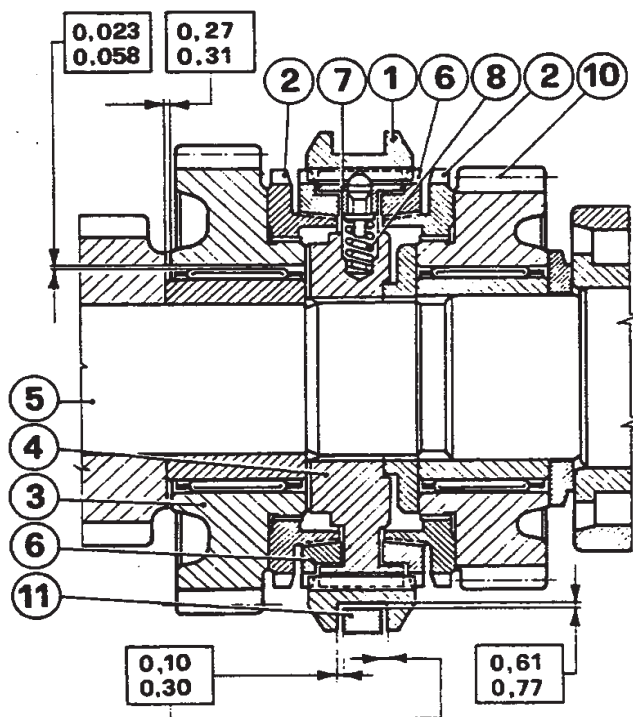
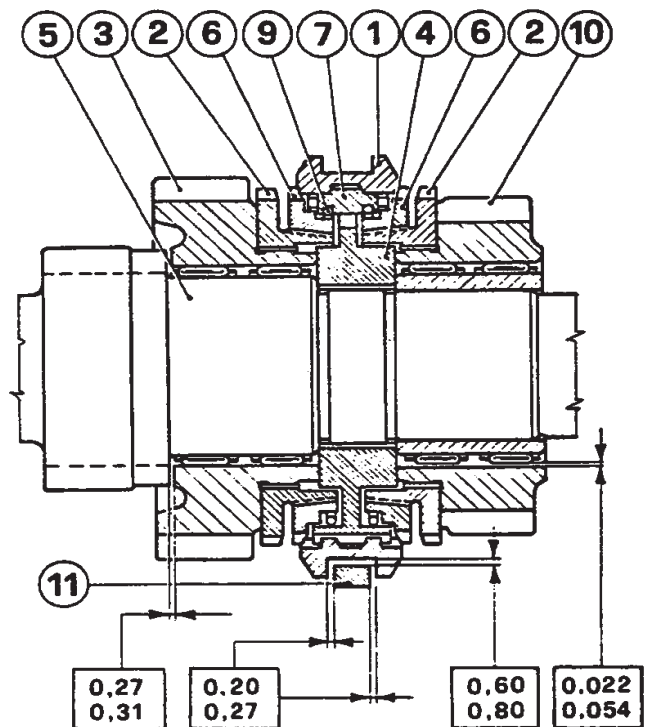

Fig. 4 - SYNCHRONIZER FOR 1st, 2nd and 3rd SPEEDS.
Fig. 5 - SYNCHRONIZER FOR 4th and 5th SPEEDS
The forward speeds synchronization is obtained by the parts shown in figures 4 and 5.
Making the sliding sleeve (1) move in an axial movement to the right or left side, in the same time also the synchro ring (6) is moved by the pressure pads (7) which are pressed in a radial way against the sleeve by the coil springs (8) (fig.4) or by the ring springs 9 (Fig. 5). Therefore the conical surface of synchro ring is pressed on the corresponding conical surface of the synchro hub.